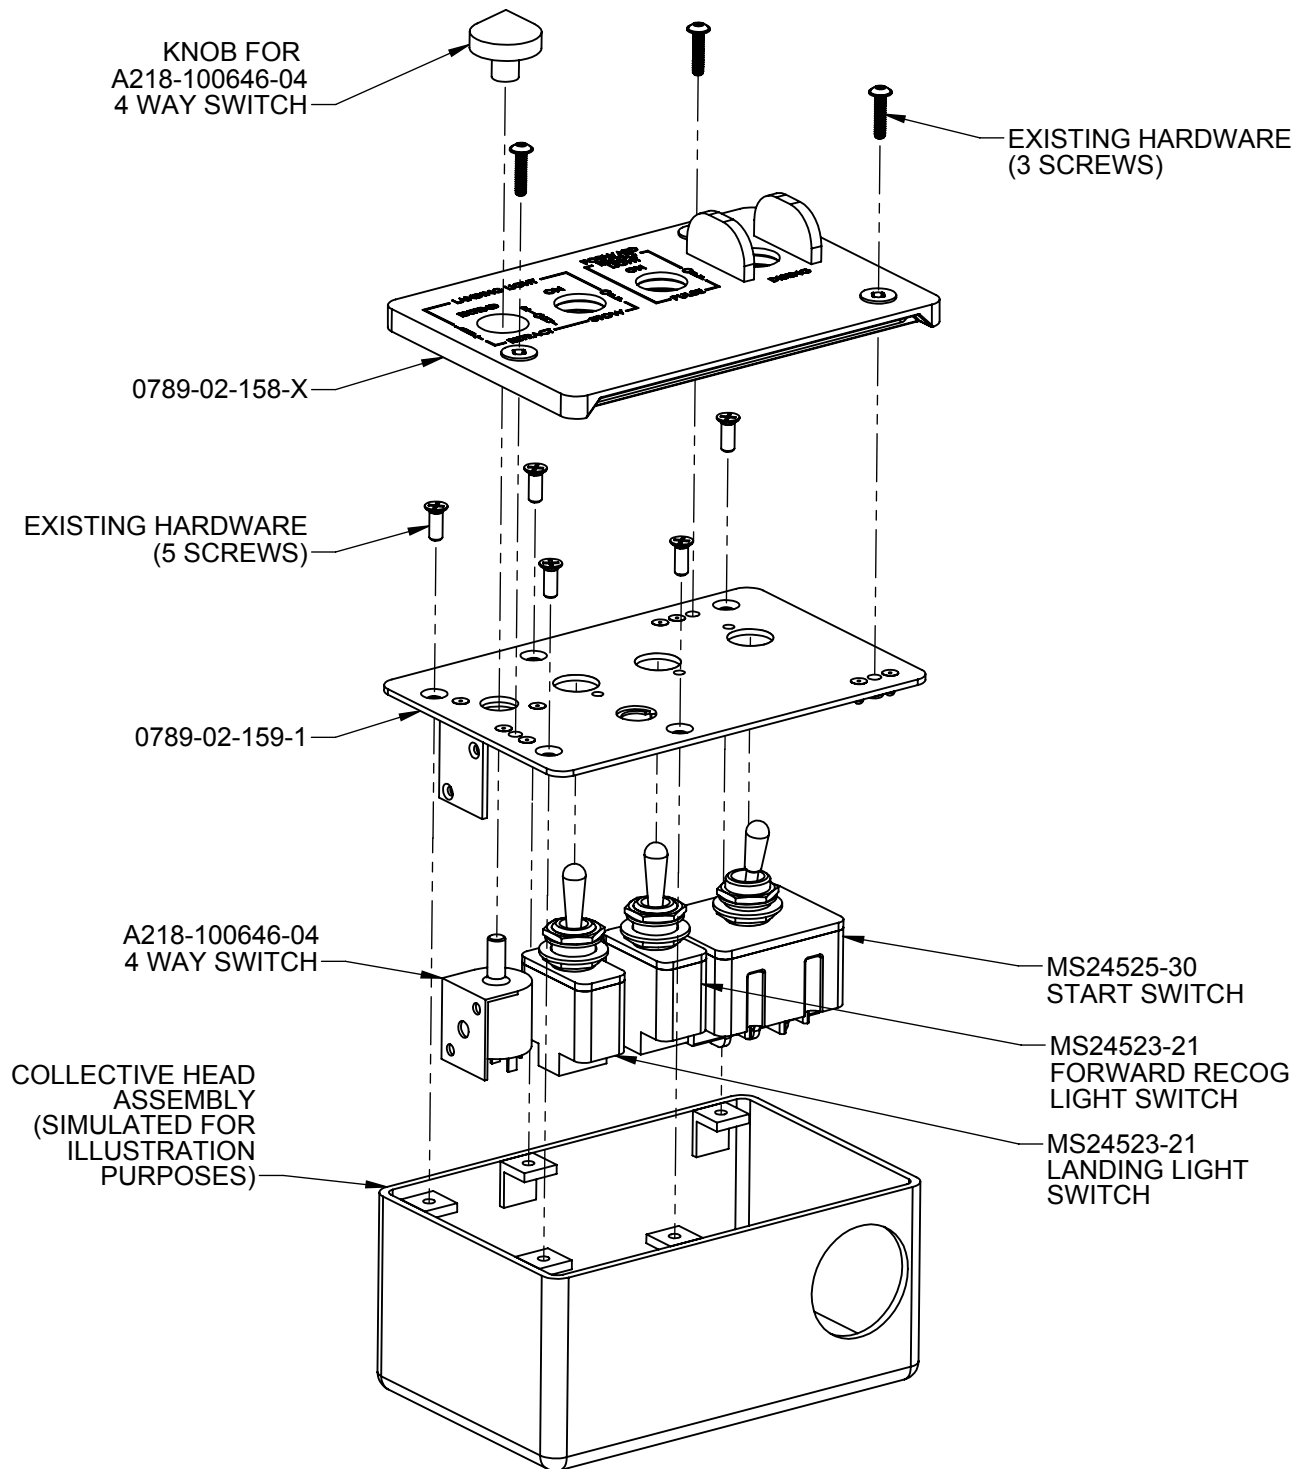

FIGURE 1: START SWITCH UPGRADE COMPONENTS INSTALLATION
4. Install the previously removed (in step 2) 4 Way Switch, Landing Light Switch and Forward Recog Light Switch on the 0789-02-159-1 Switch Plate Assembly per Figure 1.
5. Install P/N MS24525-30 Start Switch on the 0789-02-159-1 Switch Plate Assembly per Figure 1.
7. Install 0789-02-159-1 Switch Plate Assembly with Switches installed on the collective head using existing hardware per Figure 1.
8. Install 0789-02-158-X Panel Assembly on the collective head using existing hardware per Figure 1.